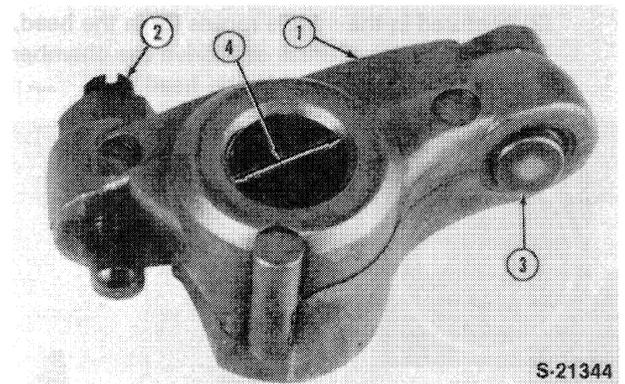

Figure 45
- Using a hole gauge, measure the inside bore diameter of the rocker arms, Figure 45.
Replace any rocker arms having a bore diameter exceeding 0.460 in. (11.7 mm), Figure 45.